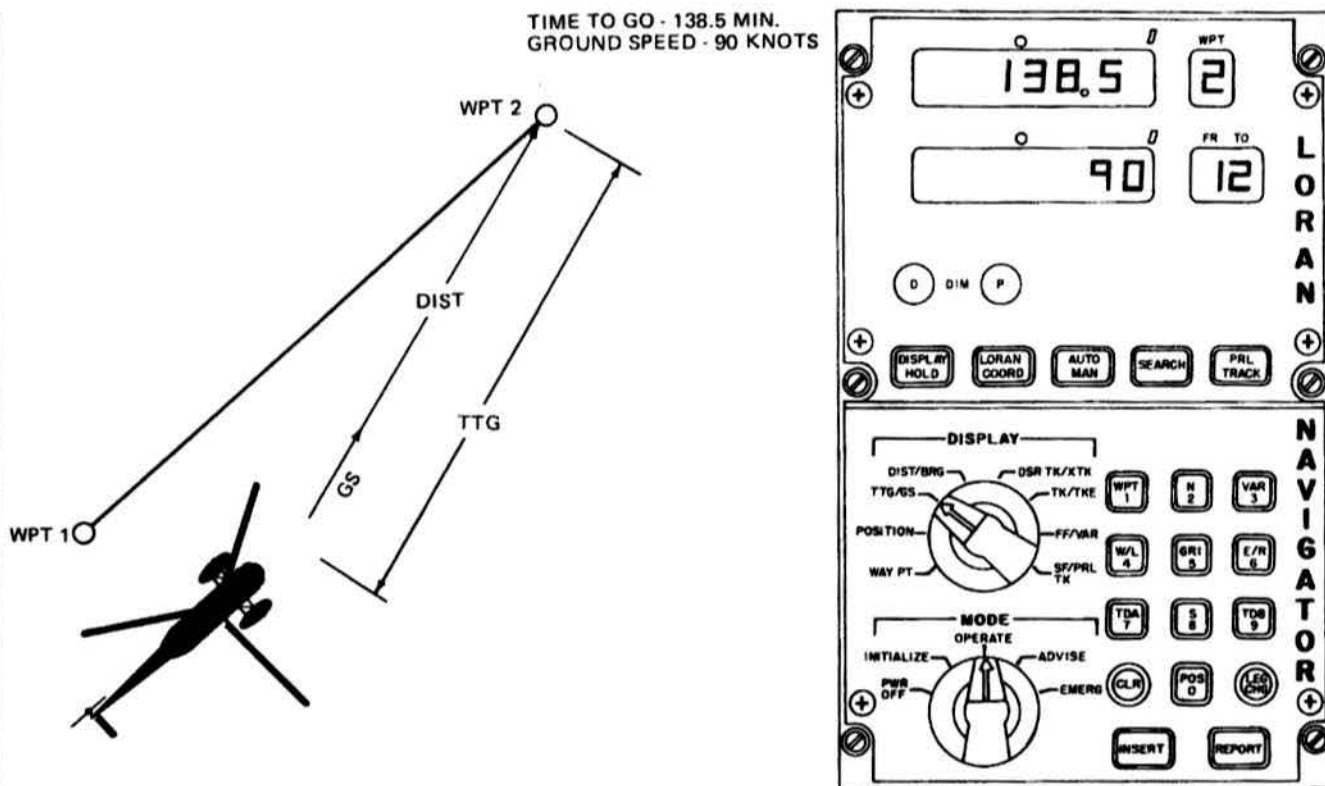

Figure 4-21. TTG/GS Display
3. TTG/GS - Presents time to go (TTG) from present position to the TO waypoint in the upper display and ground speed (GS) in the lower display. Time to go is blanked when ground speed is 10 knots or less. (Figure 4-21)